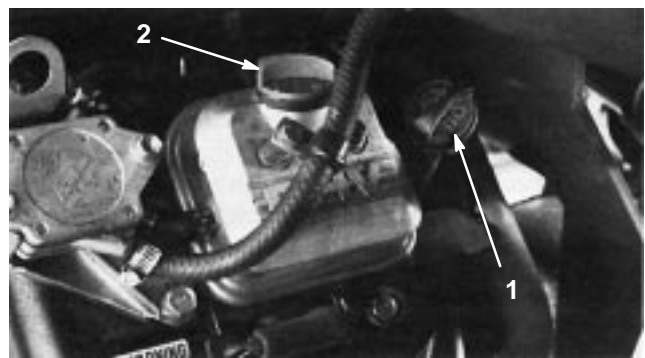

Figure 12
- Unscrew the dipstick and wipe it with a clean rag. Screw the dipstick into the tube and make sure it is seated fully (Fig. 12). Unscrew the dipstick out of the tube and check the oil level. If the oil level is low, remove the filler cap from the valve cover and add enough oil to raise the level to the Full mark on the dipstick.